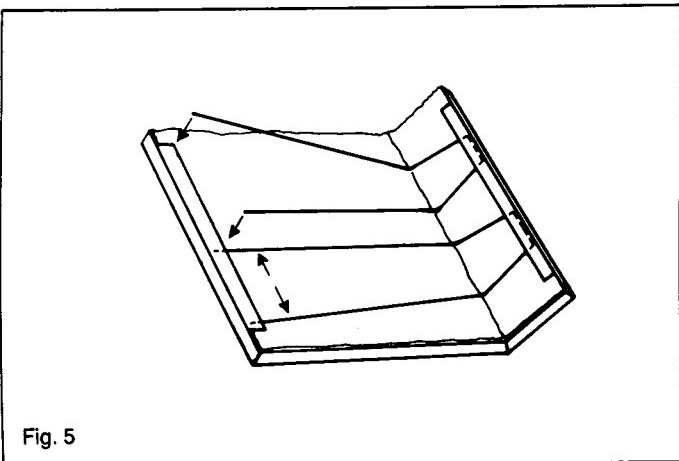

Fig. 5
5. The two ends of the wire yoke are then pressed outwards and lifted upwards (fig. 5). The filter felt can then be removed.